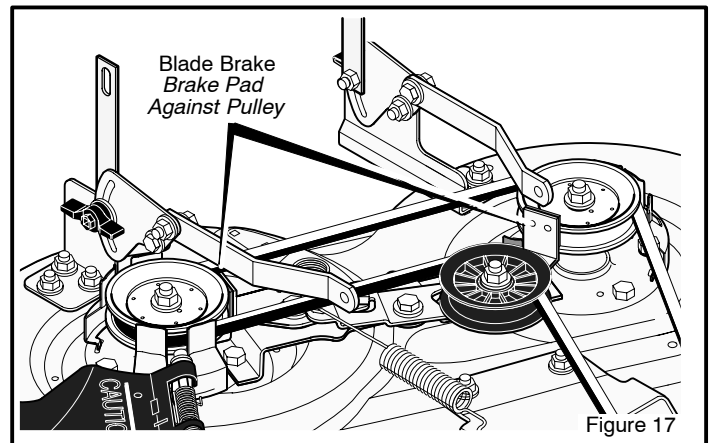

Figure 17
8. Move the **blade rotation control** to the **DISENGAGE** position. Stop the engine. Disconnect the wire from the spark plug. Check the operation of the **blade brake**. Rotate the pulleys with your hand. Make sure the **brake pads** are pressed tightly against the pulleys (Figure 17).